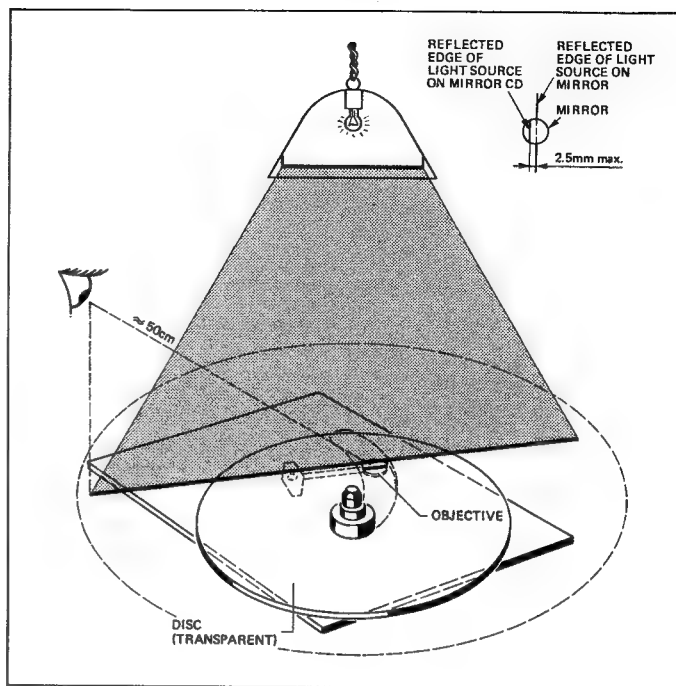
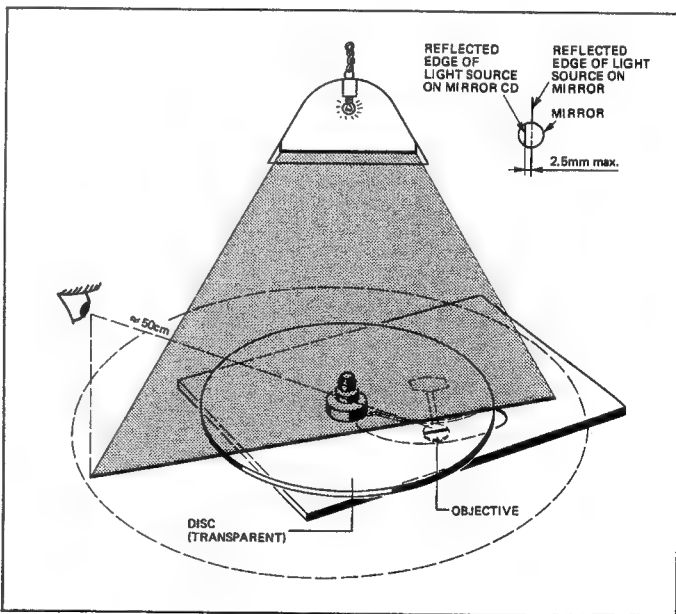

Fig. 4.13
Fig. 4.14
-> Fig. 4.13 / Fig. 4.14
- When observing the two shadow lines on the glass CD and on the mirror (Fig. 4.13), the lateral offset should not exceed 2.5 mm.
- Position the play mechanism in such a way that the shadow line runs perpendicular to the pickup arm but runs through the center of the mirror on the optical laser system (Fig. 4.14).